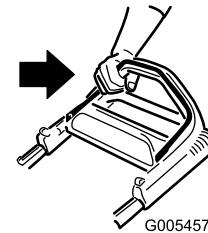

Figure 13
2. Hold the blade control bar against the handle (Figure 13).